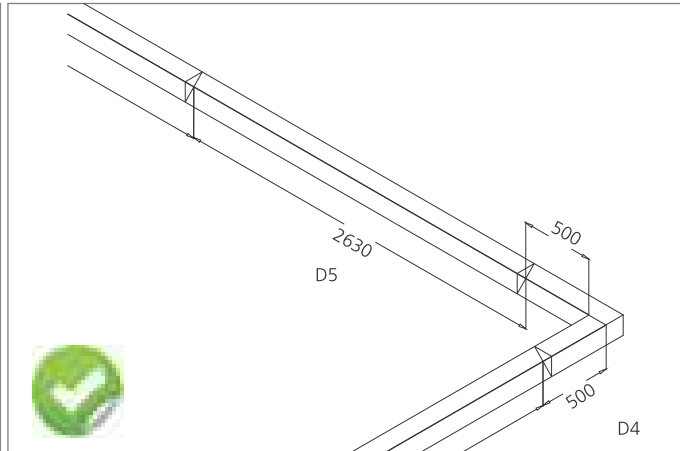

Fig 5 (Best Practice)
- Fig.5 shows the best practice: feeder 2630 + HE 500x500.